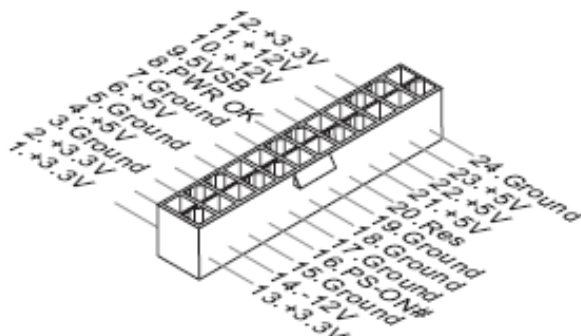

Figure 7: ATX 24-Pin Power Connector
1. Unlatch the processor socket lever by pushing it down and away from the socket. (Figure 7, A, B)